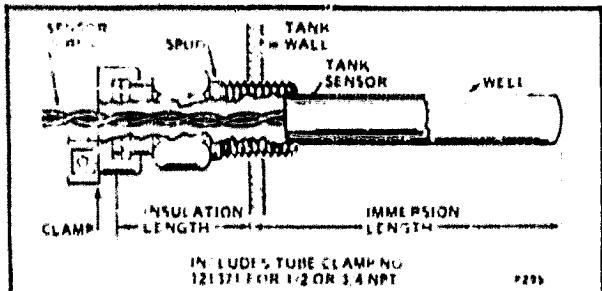

FIG. 2-TANK SENSOR INSERTED INTO IMMERSION WELL.
Immersion Well. For mounting C773 Electronic Temperature Sensor in storage tank. See Fig. 2 and Table 1.
4. Insert the sensor probe into the immersion well until it bottoms. See Fig. 2.